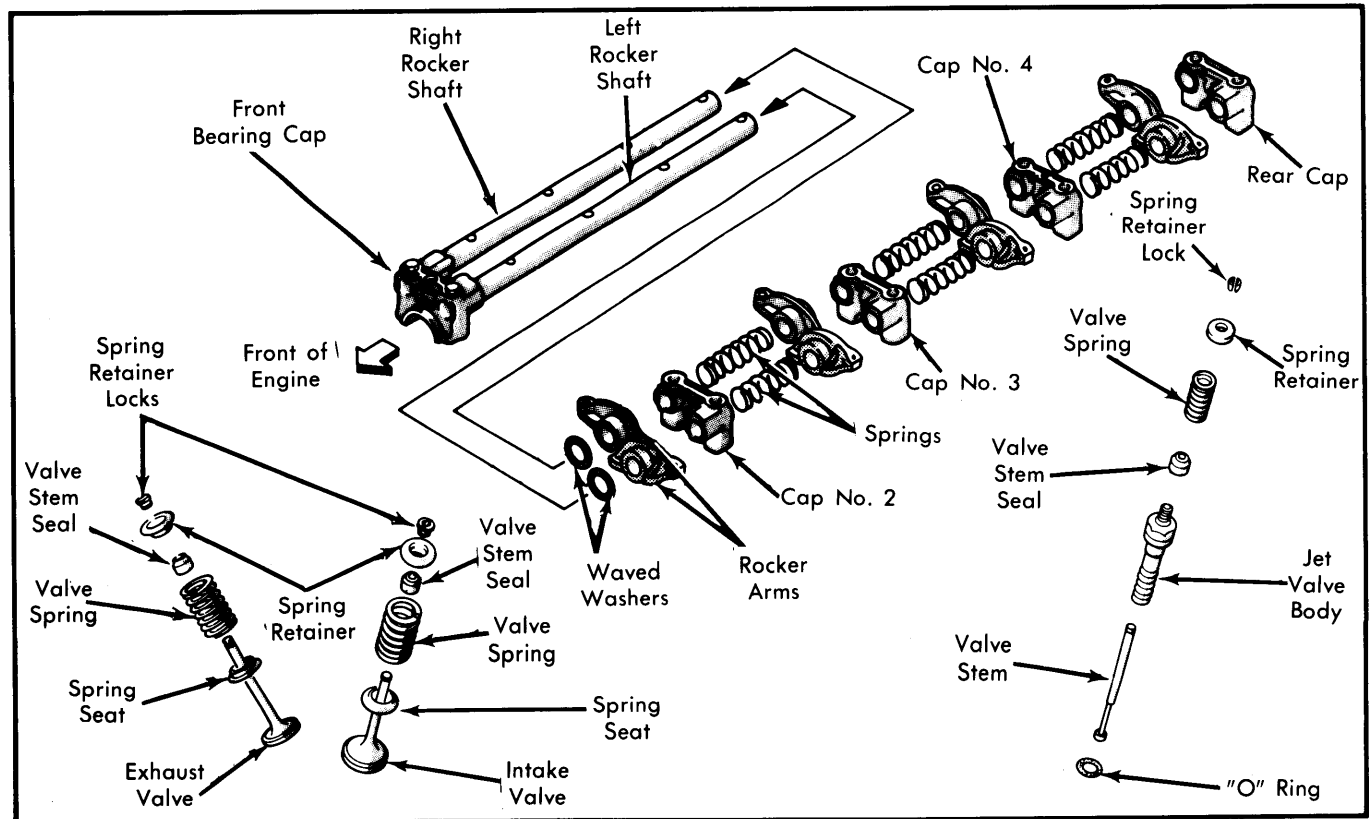

Fig. 3 Rocker Arm and Valve Assembly
2) When assembling, lubricate parts with engine oil. See Fig. 3. Compress spring and install retainer and lock. Install new "O" ring, lubricated with engine oil, on jet valve body. Install valve stem seal, using seal driver (MD998308).
With camshaft and rocker arm assembly removed, use valve lifter and remove retainer locks (keepers). See Fig. 3. Remove all retainers, springs, spring seats and valves, keeping them in proper order for reassembly. Check valve spring free length and pressure. Standard squareness should be 1.5° or less. If beyond 3°, replace spring. Installed height of a new intake or exhaust valve spring should be 1.590". If 1.629" or more, replace spring.